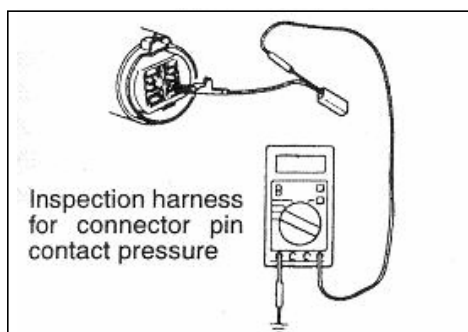

Fig. 20-11
•When inspecting a female pin (see Fig.20-11)